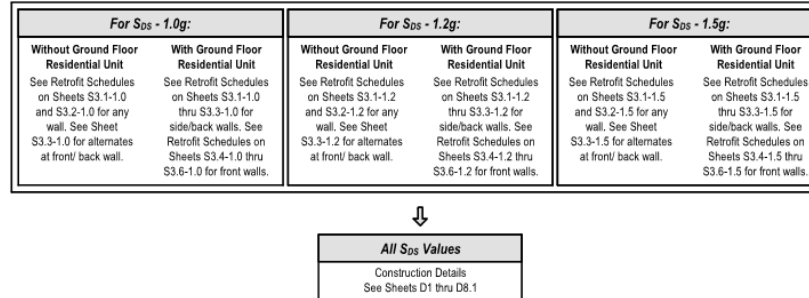

Figure 1. Earthquake Retrofit Schedules per S_{DS}
See Sheet S3, Figure 1 f
- Find the corresponding S_{DS} value and building retrofit/configuration type in Figure 1. You will use one or more of the Earthquake Retrofit Schedules identified in Figure 1. Do not submit any of the unused sheets to the Building Official.